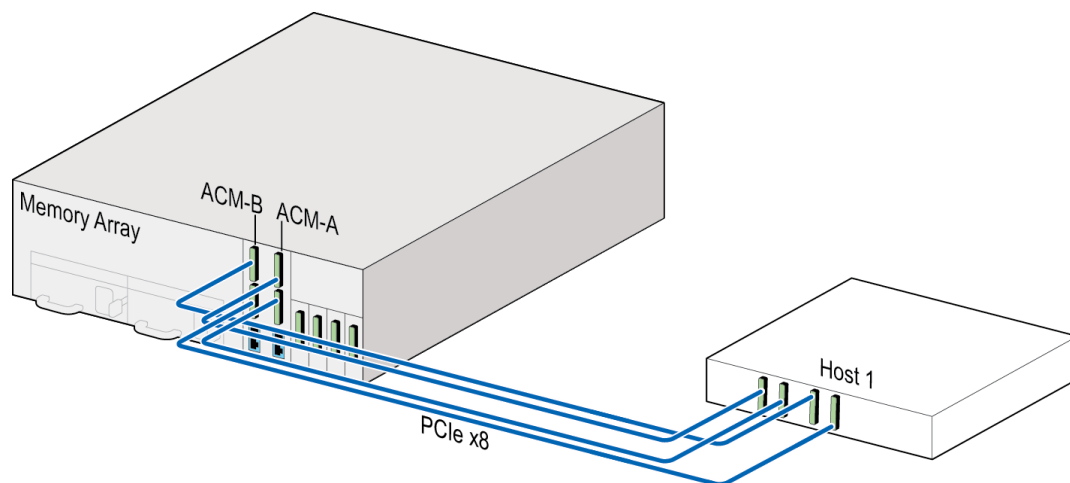

Figure 1.4 Direct-Attached to Single Host for Redundancy
For improved High Availability (HA) protection, all four ports (two on each ACM) can be connected to a single host for redundancy, as shown in Figure 1.4. The second set of connections present another disk device with the same addressability as the first disk device. For a Linux system, the device is shown as `/dev/vtmsa.`